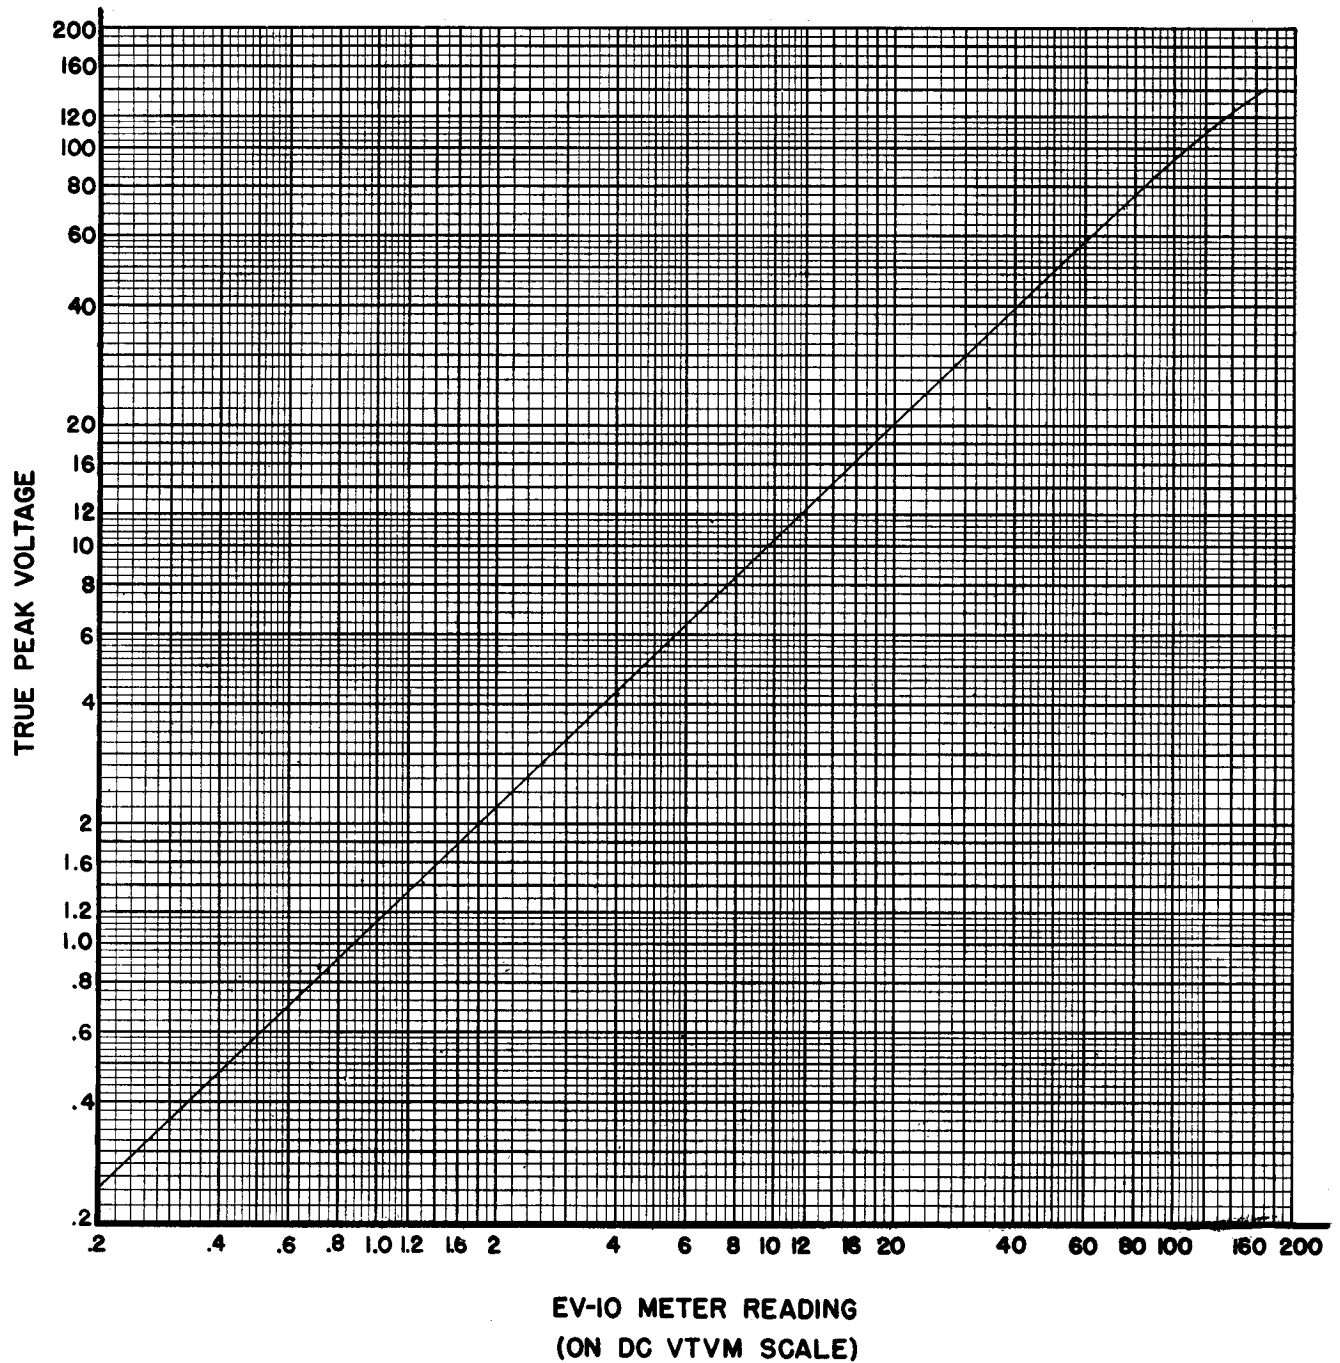

FIG. 1
For routine comparison measurements which do not require an unusually high degree of accuracy, direct use of the peak readings obtained on the DC Zero Center EV-10 scales may be used without correction. For those applications which do require maximum measurement accuracy the readings obtained on the EV-10 scales can be referred to the correction curve at the rear of this manual (Fig. 1) for corrected values.
6. As noted previously, the readings to be obtained in routine radio maintenance are usually sufficiently non-critical to permit direct use of the EV-10 Meter reading without further correction. Where desired, additional accuracy may be obtained through reference to the correction graph of Fig. 1.